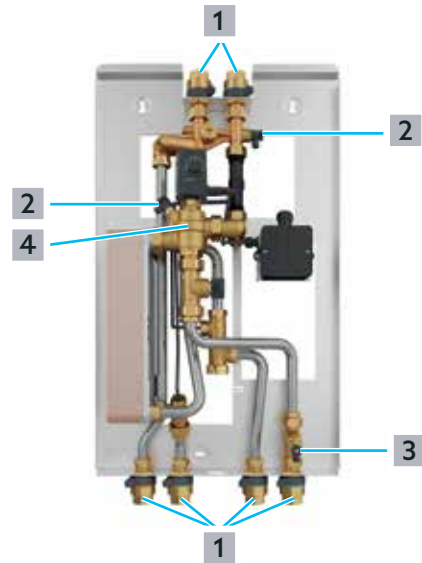

Fig. 16: Setting the ceramic disc valves
- The zone valve ((4) in Fig. 16 on page 20) must be open.
- The vent valves ((2) in Fig. 16 on page 20) and the drain valve ((3) in Fig. 16 on page 20) must be closed.